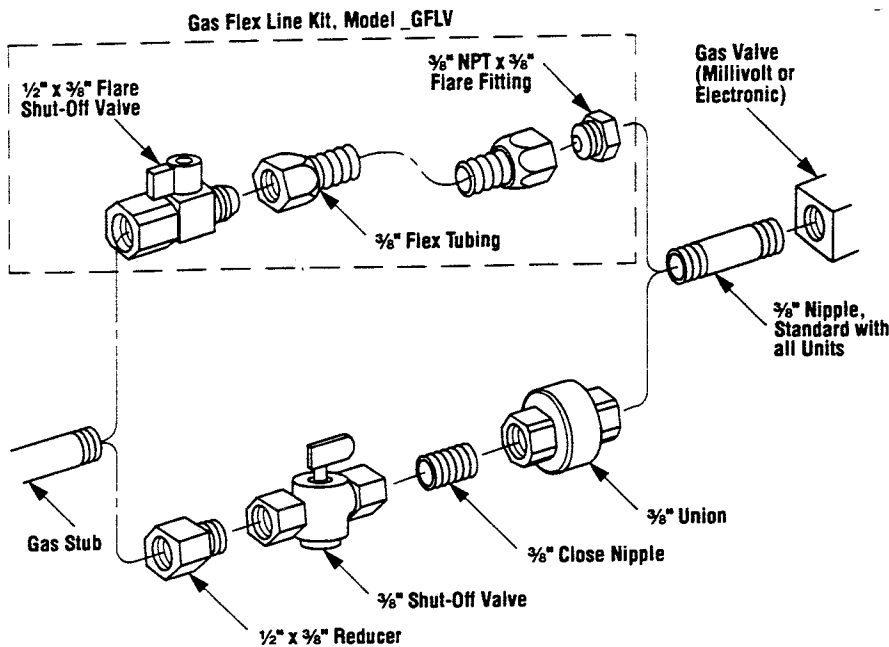

Figure 15
Step 6. Connecting Gas Line – Make gas line connections. All codes require a shut-off valve mounted in the supply line. *Figure 15* illustrates two methods for connecting the gas supply. The flex-line method is acceptable in the U.S., however, Canadian requirements vary depending on locality. Installation must be in compliance with local codes.